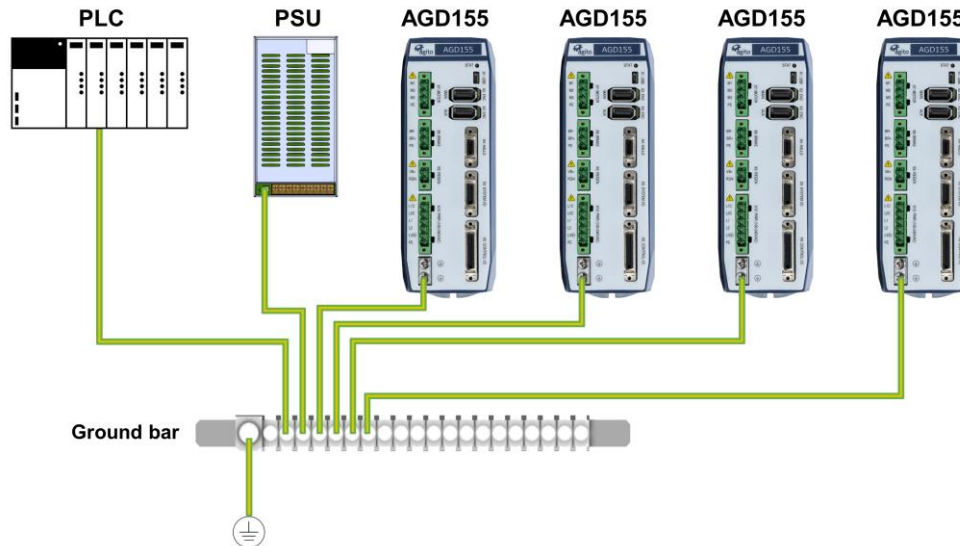

Figure 8. System grounding
- The AGD155 must be connected to protective earth (PE) and connected to the building's ground. PE is protected with an earth-leakage circuit breaker (ELCB); hence it is safe to touch. Refer to Figure 8.